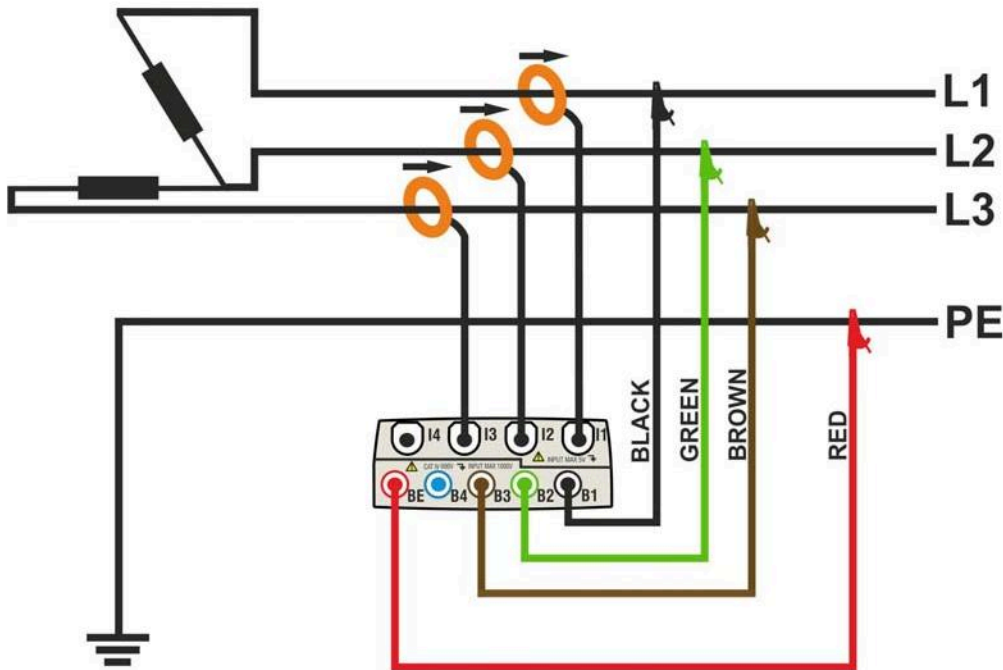

Fig. 170: Meter connection in a three phase 3POD system – ENG type
2. Connect voltage test leads on Phases L1, L2, L3 and PE cables considering the colours as shown in Fig. 170. **Verify the result “123” at display relative to a correct phase sequence indication** (see § 5.2.4.1 ) and perform the corrections if necessary.
3. Connect the transducer current clamps on Phase L1, L2, L3 cables as shown in Fig. 170 respecting the clamp's arrow direction indicating the current standard sequence from generator to load. **On Real Time Values' section screens (selecting a 3 wire system preliminarily) always verify the positive value of Active Power and the power factor relative to load which should be normally inductive** before starting a recording. Reverse the clamp by 180 degrees on cables in case of negative readings.